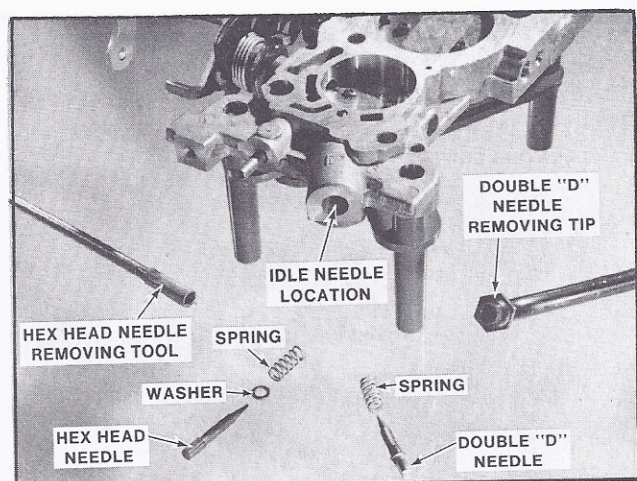

FIGURE 33 REMOVING IDLE MIXTURE SCREWS
c. Using proper tool, remove idle needle, washer (if used), and spring from throttle body (Figure 33).
4. If removed, install idle mixture needle, washer (if used), and spring using tool J-28706 or J-28030 (Figure 33). Lightly seat needle and then back out three turns as a preliminary idle mixture adjustment. Final idle mixture adjustment must be made on-car using the procedures described under Idle Mixture Adjustment.